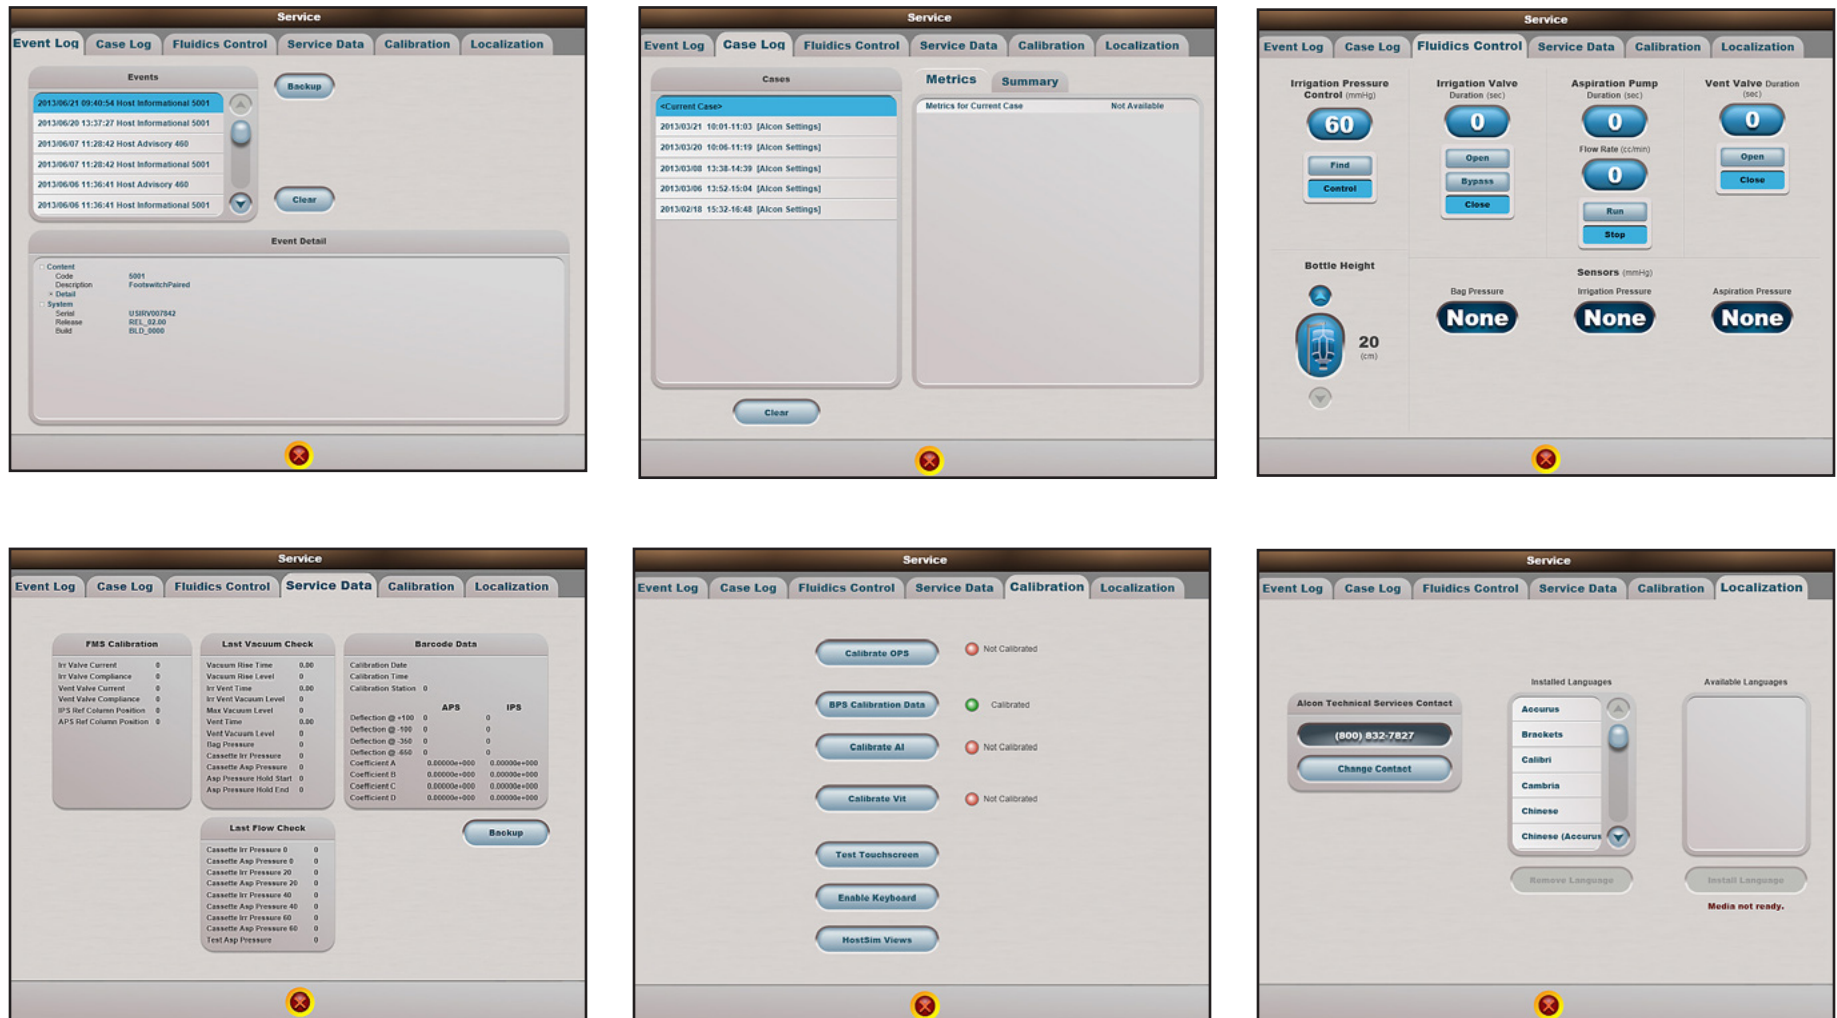

Figure 4-1 Service Mode Screens for Software Versions 2.01 and 2.03
The Screens shown in Figure 4-1, Figure 4-2, and Figure 4-3 show the available functions that may be used when servicing the system.
1.1.3 When the About screen is displayed, alternately tap once on each side of the word "About" in the title bar of the screen. The Service screen will be displayed as shown in Figure 4-1 or Figure 4-2. The Event Log tab is the default view.